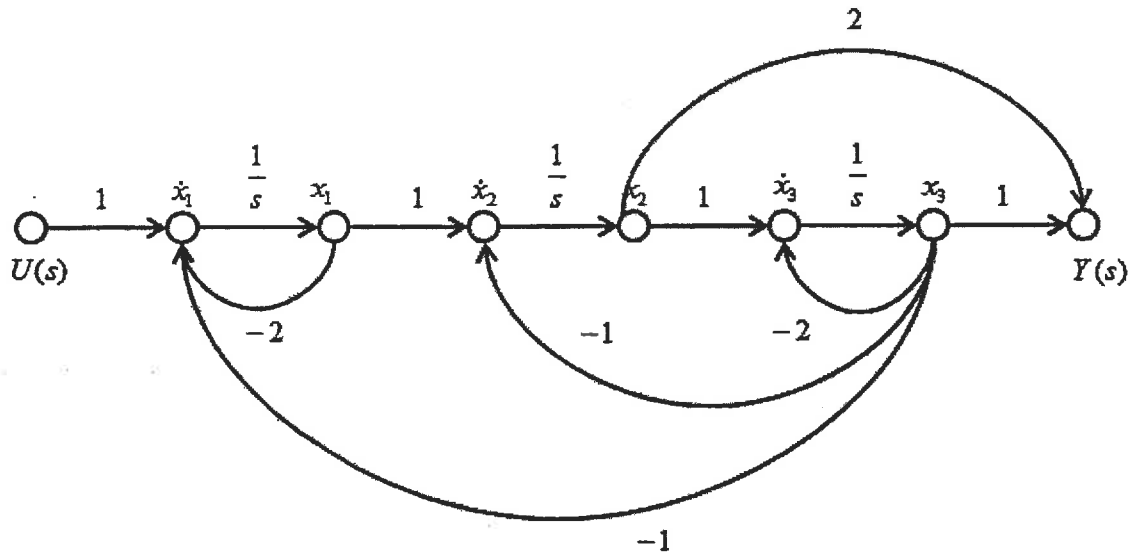

Figure Q6.1
Consider a linear process described by the signal flow graph in Figure Q6.1:
- 1) (6 marks) Derive a set of the corresponding state equations - follow the choice of state variables as indicated in Figure Q6.1.